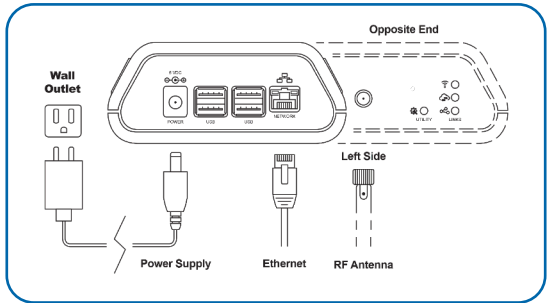

Figure 4
1. Connect your antenna to the gateway as seen in Figure 4.